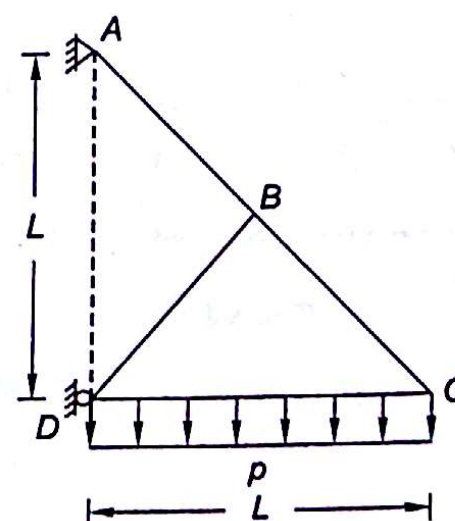

Fig. 4.35
- 4.6 A truss $ABCD$, hinged at A , roller supported at D carries uniformly distributed load of intensity p along member DC . What is the horizontal component of reaction at A ? (Fig. 4.35)